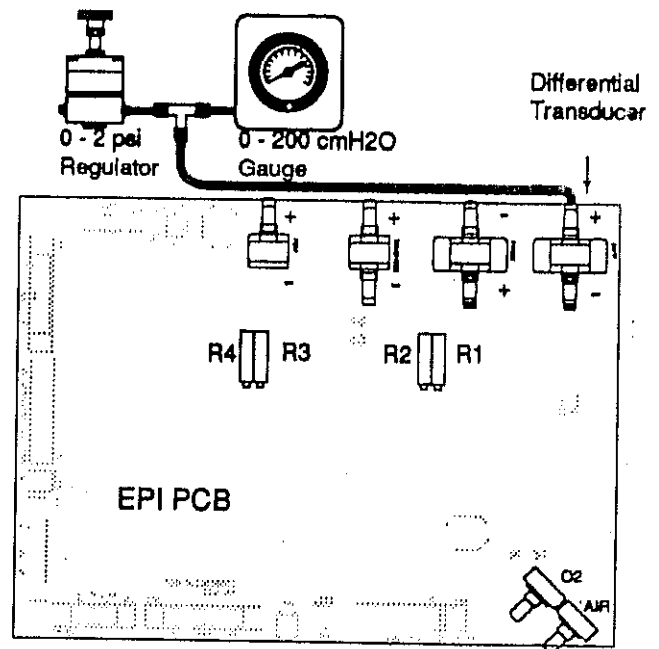

Figure 5-4
7. Connect the Differential Transducer as shown in Figure 5-4 and apply 40 ±.5 cmH₂O pressure.
11. Connect the Differential Transducer as shown in Figure 5-4 except to the opposite port (negative) and apply 95 ±.5 cmH₂O pressure.